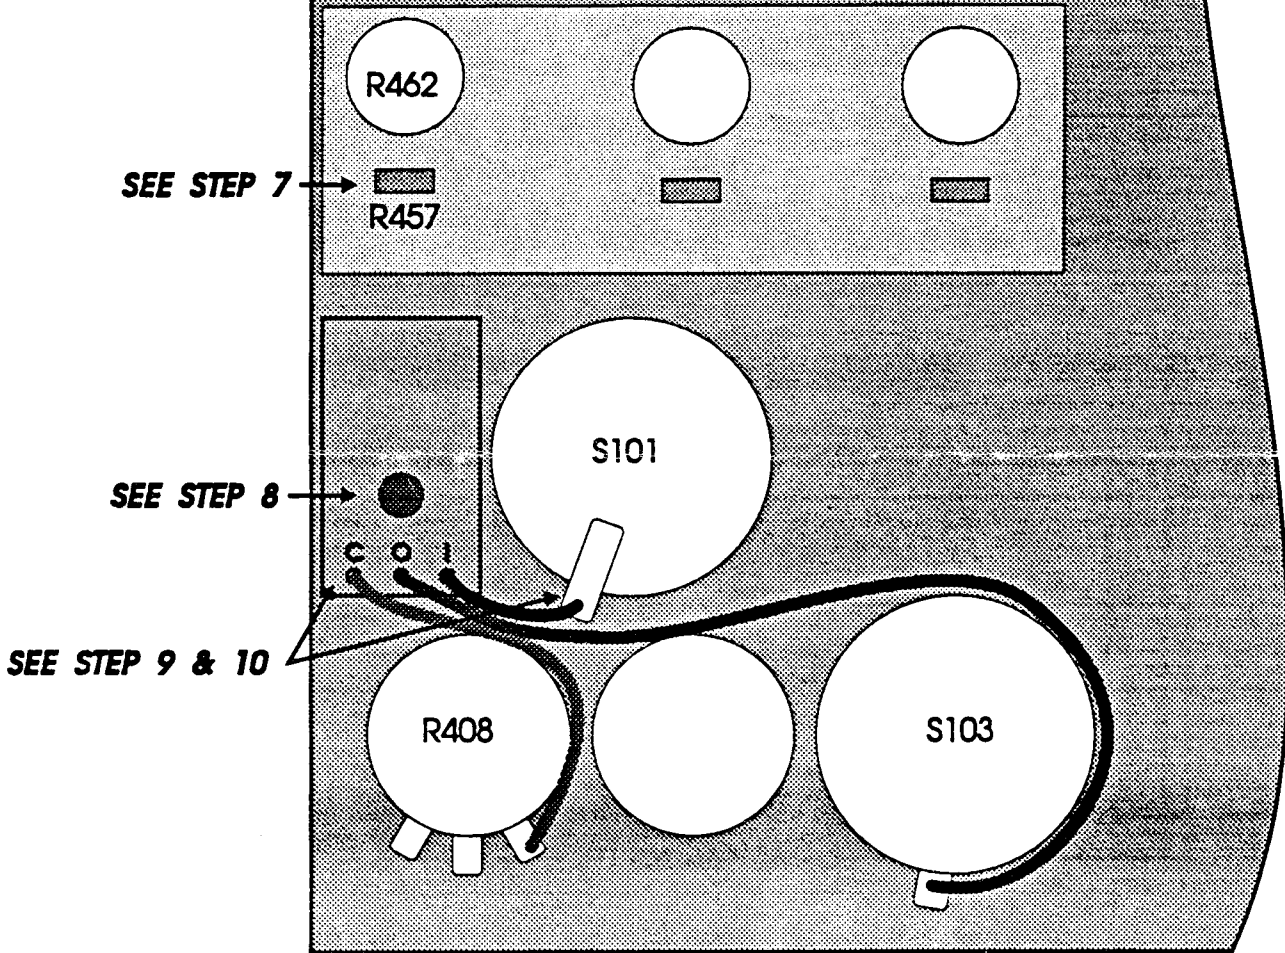

Figure 2
7. Remove R457 and replace with Item 2, 2.49K ohm resistor. See Figure 2 for location.
9. Remove the white/red wire from the lower switch clip, rear wafer of the Battery Check switch, Figure 2, and connect it to the center pad marked "O" on the regulator pcb, Item 1. Connect the red wire, Item 7, to the pad marked "I" on the regulator pcb. Connect the black wire, Item 8, to the pad marked "C" on the regulator pcb. Mount the regulator pcb on the hex spacer using the 6-32 screw, Item 4.
10. Connect the red wire to the switch clip vacated by the white/red wire. Connect the black wire to the right hand terminal of the Fine Reference adjust pot. A yellow wire is also connected to this terminal. See Figure 2 for illustrations.